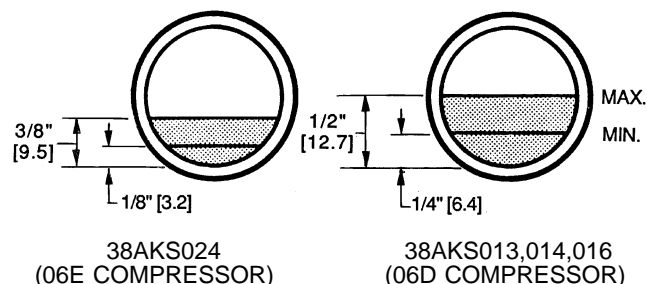

Fig. 9 — Operating Oil Levels
5. Compressor oil level should be visible in sight glass. See Fig. 9. Adjust the oil level as required. Refer to Preliminary Oil Charge section. No oil should be removed unless the crankcase heater has been energized for at least 24 hours.
ADD OIL — Close suction service valve and pump down crankcase to 2 psig (14 kPag). (Low-pressure switch must be jumpered.) Wait a few minutes and repeat until pressure remains steady at 2 psig (14 kPag). Remove oil fill plug above the oil level sight glass, add oil through plug hole, and replace plug. Run compressor for 20 minutes and check oil level. See Fig. 9.
If the initial check shows too much oil (too high in the sight glass) remove oil to proper level. See Preliminary Oil Charge, this page, for proper procedure for adding and removing oil. See Fig. 9.